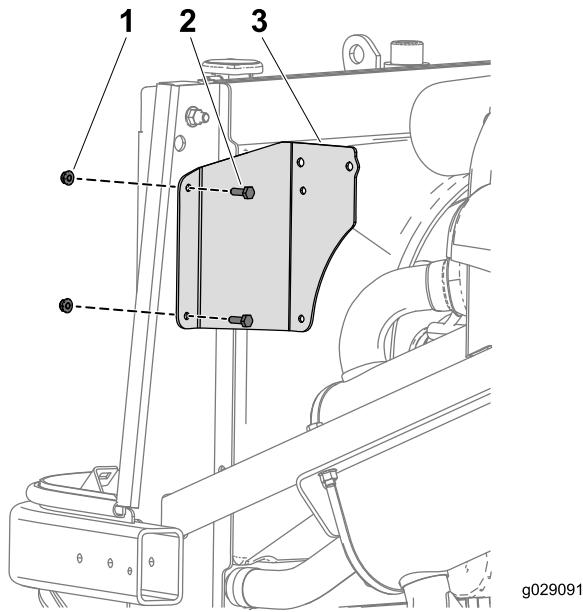

Figure 14
1. Install the bracket using 2 bolts (1/4 x 3/4 inch) and the nuts previously removed from the radiator-overflow bracket (Figure 14).